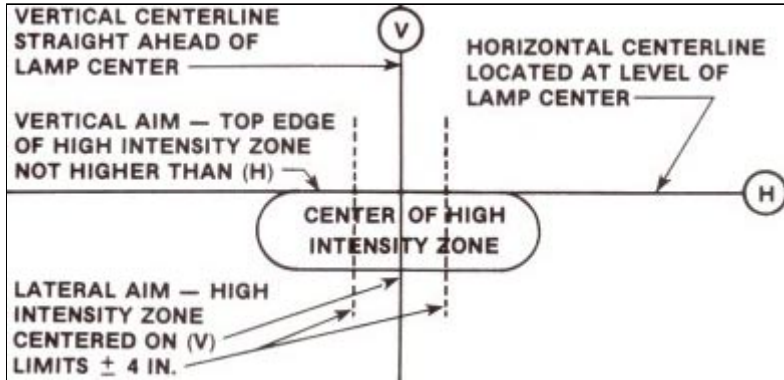

FIG. 4 - AIM INSPECTION LIMITS FOR SYMMETRICAL BEAM FOG LAMPS
6. Measure the center line height of the headlamps (D) and place the adjustable horizontal black line (B) at that height on the screen (Fig. 4). Place line at closest inch mark. There is no need to worry about fractions of an inch.
7. Measure from front center of vehicle to center of each headlamp (E) and place the black metal pointers (F) at that distance on the horizontal black line.
8. With no ambient light in the aiming area, the headlamps will project a high intensity zone (G) on the screen. The headlamps then should be adjusted to locate the high intensity zone as shown on the following pages.